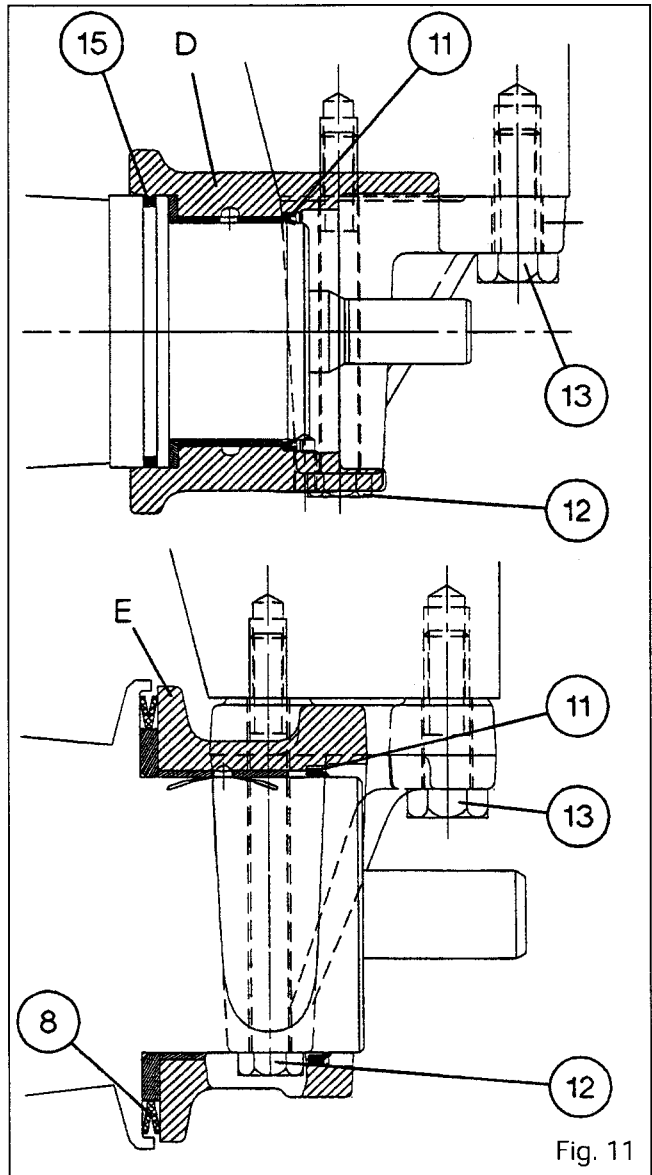

Fig. 11
D : Installation with quadring seal (15) and seal (11) (Fig. 11) (removable support).
E : Installation with dust guard (8) and seal (11) (Fig. 11) (removable support).